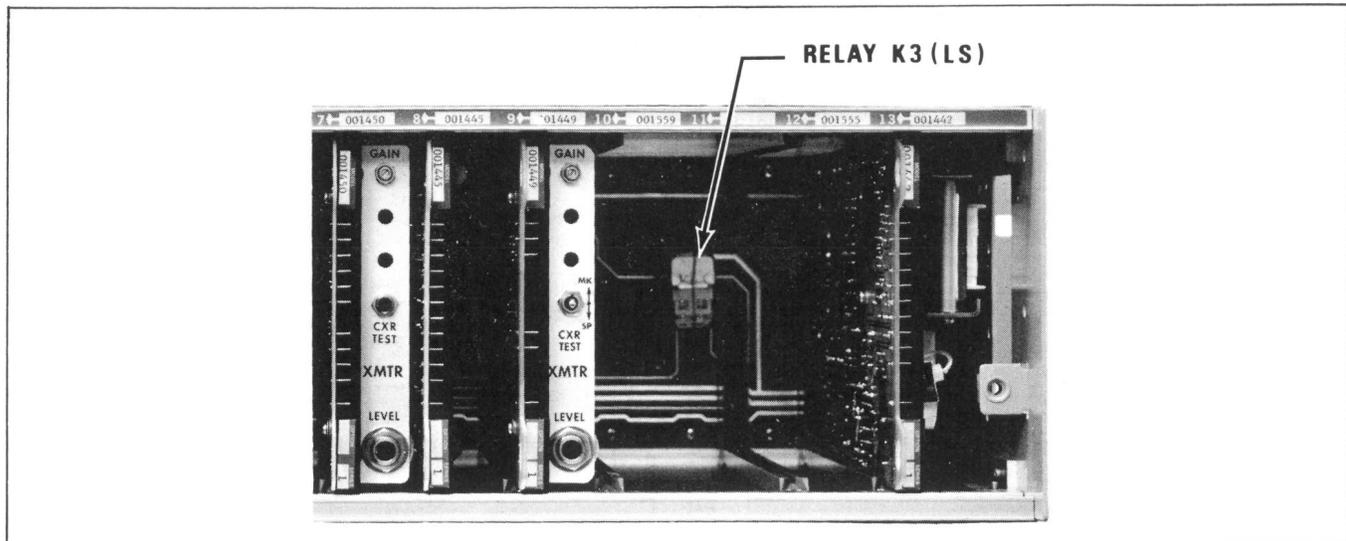

Figure 9 - Relay K3 (LS)
- a. If signals are heard, but no meter deflection occurs, check or substitute relay K3 on the motherboard. (Figure 9) Also,
2. Connect a headset between test points C and GND on the dial-thru transmitter card (001449), listening for a steady tone signal. If there is a tone, the transmitter is operating. Then check or substitute relay K4 on Card 001559 and relay K3 (Fig. 9) on the motherboard. If no tone is heard, perform these steps:
- a. Check or substitute relay K3 (Figure 9) on the motherboard.